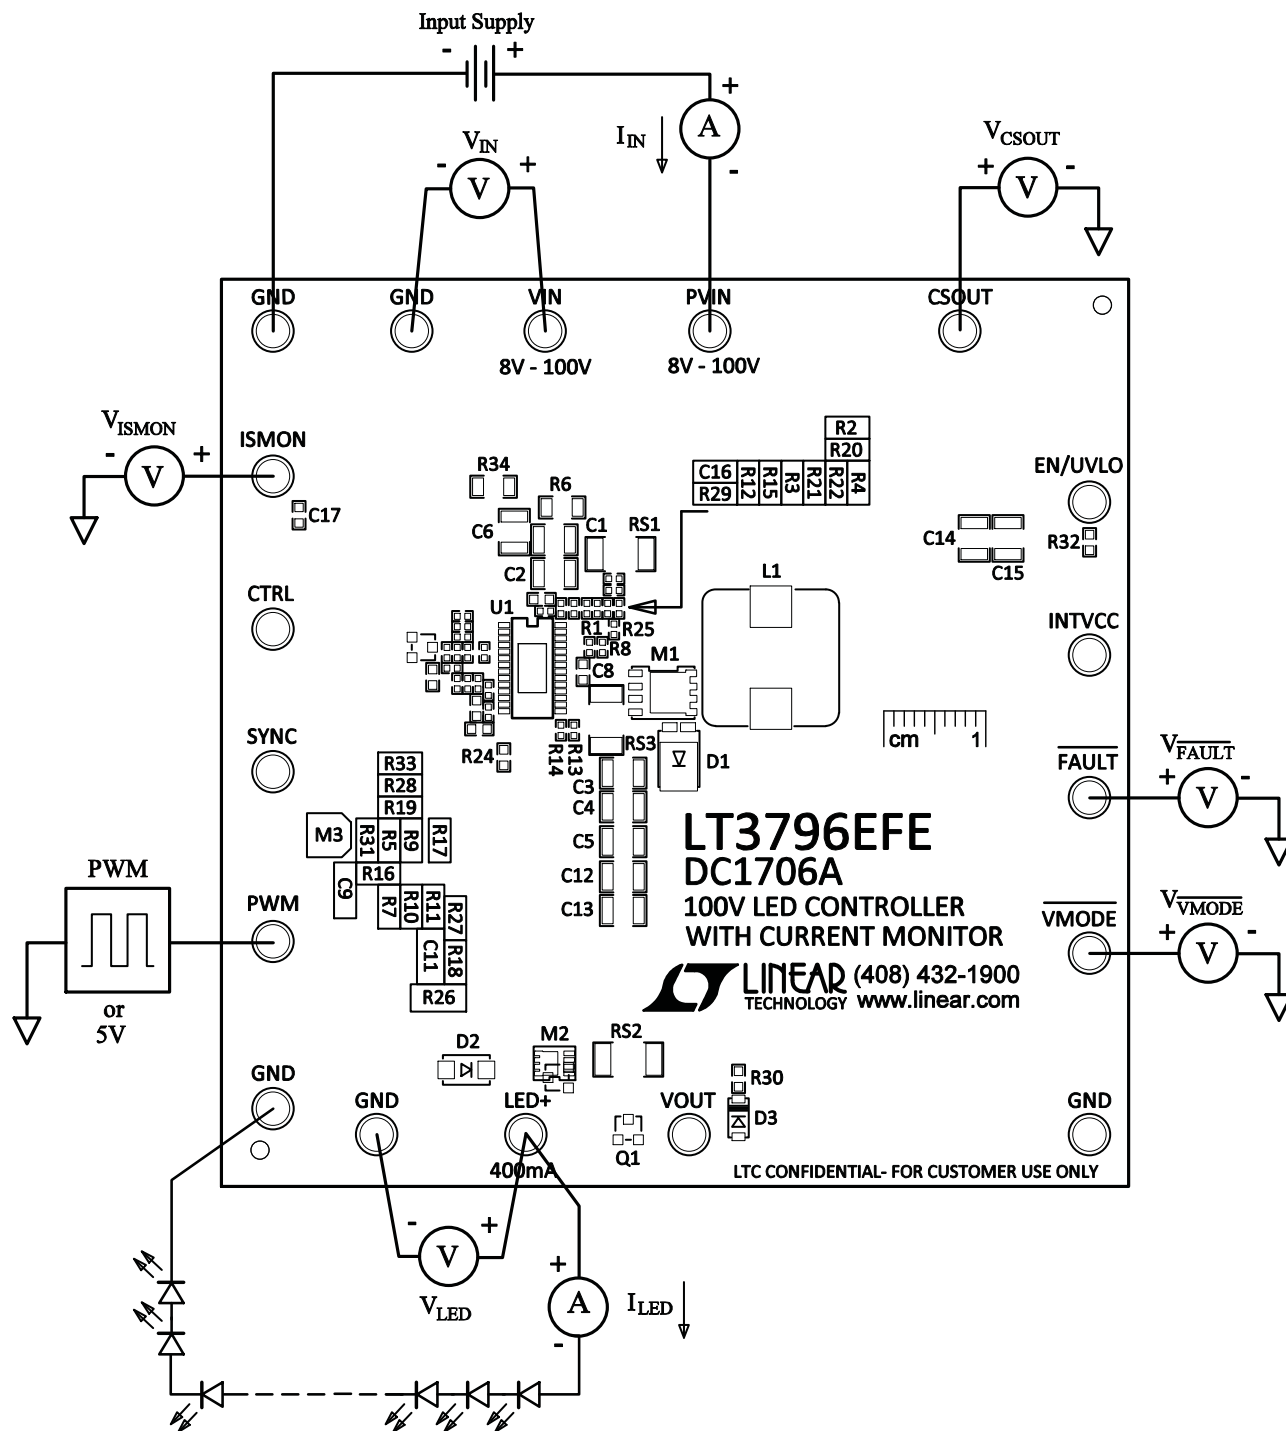

Figure 1. Test Procedure Setup Drawing for DC1706A
1. Connect a string of LEDs that will run with forward voltage less than 85V, but greater than PVIN, to the LED⁺ and GND terminals on the PCB as shown in Figure 1.